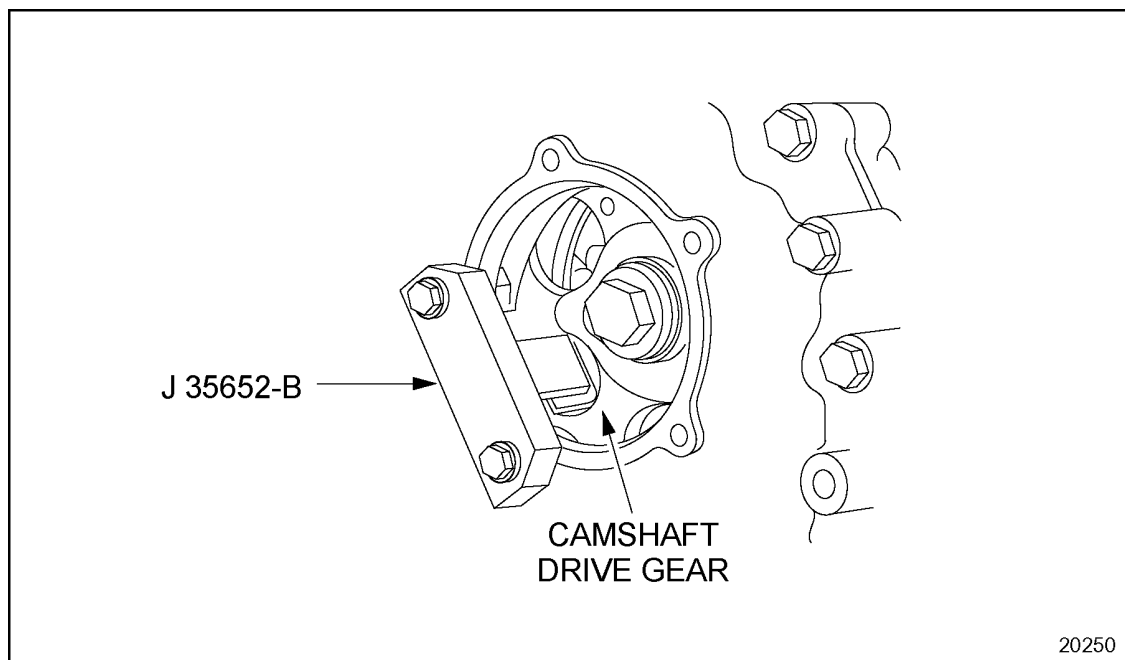

Figure 1-319 Installation of Camshaft Drive Gear Torque Holding Tool
11. Insert the shoe of the camshaft drive gear torque holding tool, J 35652, through a lightening hole of the camshaft drive gear. See Figure 1-319.